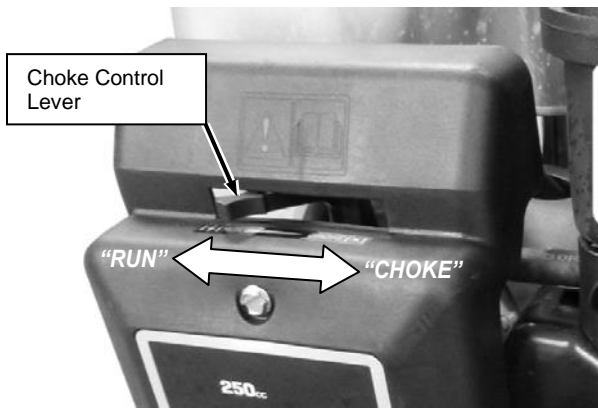

Figure 12
2. Move the Choke Control Lever to the “CHOKE” position if the engine is cold (**Figure 12**). Leave it in the RUN position if the engine is already warm.
5. As the engine warms up, slowly adjust the Choke to the “Run” position (**Figure 12**). Wait until the engine runs smoothly before each Choke adjustment.